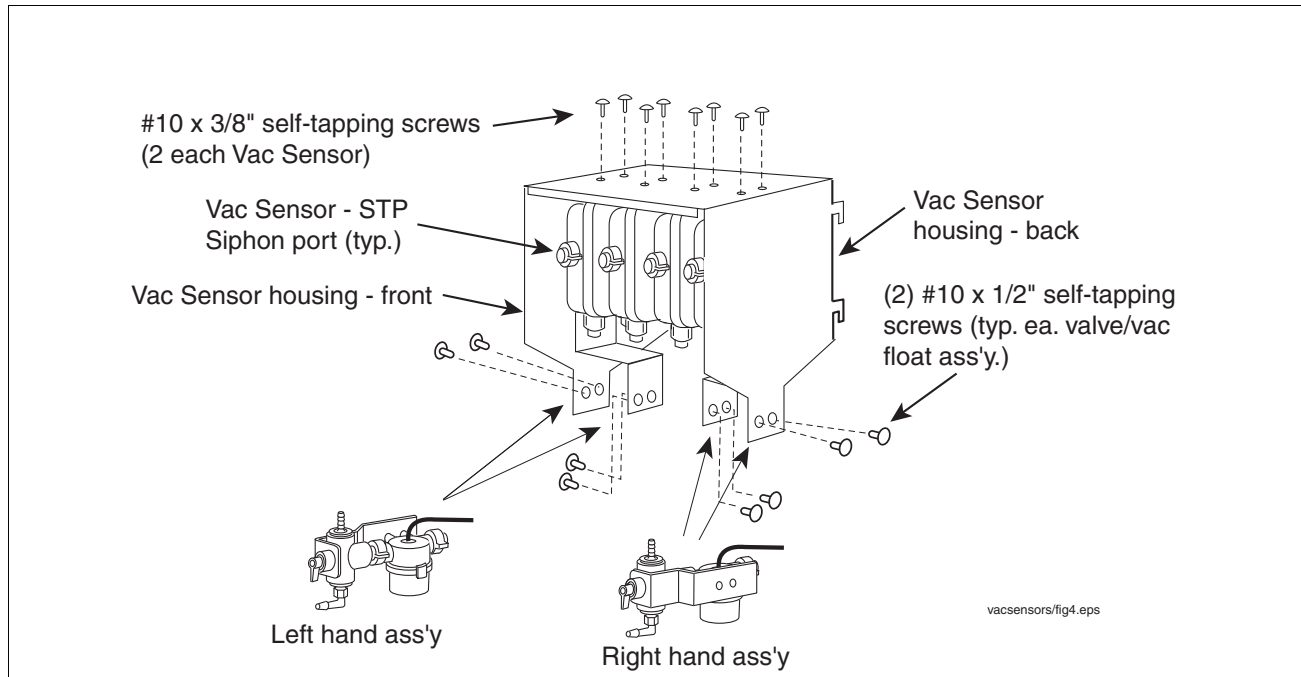

Figure 3. Attaching four Vac Sensors/Floats to the housing
2. Get the Vac Sensor housing from the mounting kit and attach each of the Vac Sensors (up to 4) to the top of the housing using #10 x 3/8" self-tapping screws as shown in Figure 3. Mount the Vac Sensors with the 'STP Siphon' labeled port facing the front of the housing.
If you are not monitoring a tank interstice, there is a maximum of two left-hand Vac Sensor/Float mounting positions and two right-hand Vac Sensor/Float mounting positions in the Vac Sensor Housing (Figure 3). If a tank interstice is being monitored, then one of the four Vac Sensors will have no Vac Float attached.
6. Get the angled support brackets from each Vac Float kit. Depending on the Vac Float's position in the housing, orient the bracket so that when you slip the large hole in the front of the bracket over the valve handle, the two holes in the side of the bracket are in line with the two holes in the side of the Vac Float body as shown in Figure 3. Secure the Vac Float assembly to the housing using two #10 x 1/2" self-tapping screws which screw into the two holes in the side of the Vac Float.